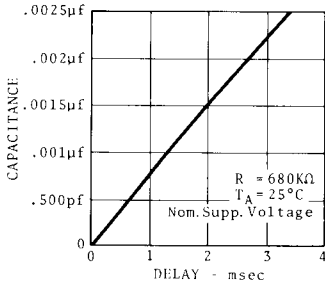

Fig.5
* R1(680K Ω), C1(.001 μ F) provide approx. 1.5 ms delay (see figure 5)